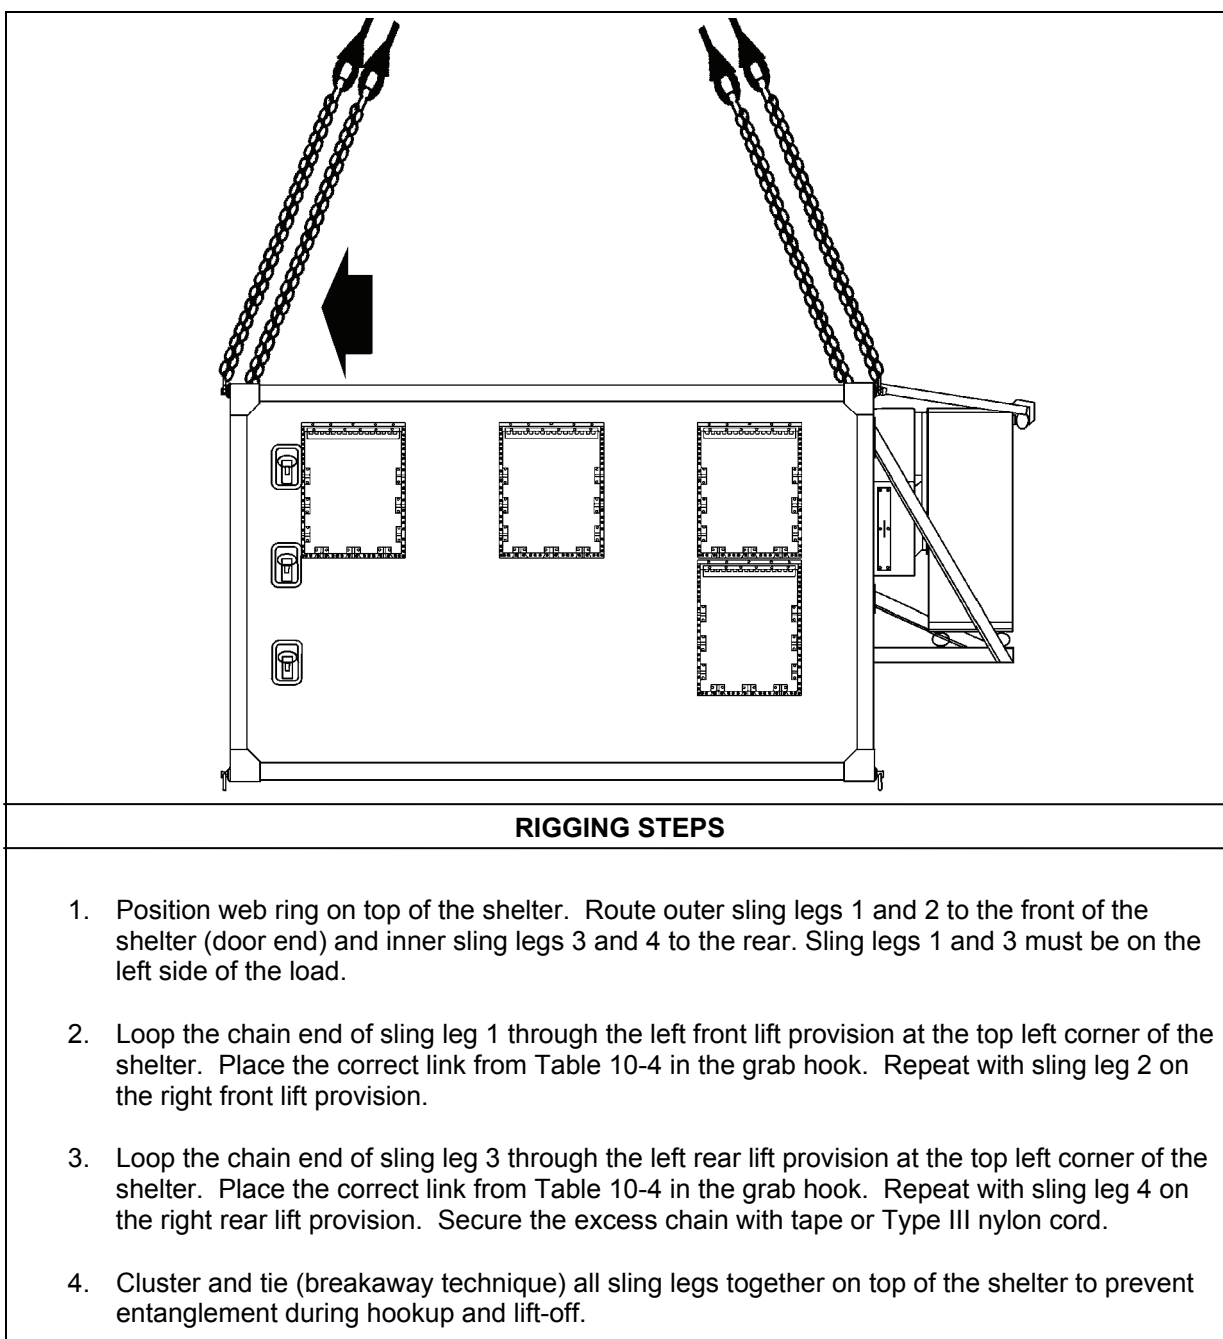

Figure 10-4. Digital Tech Controller Housed in a Modified Gitchner Shelter
- **Rigging.** Rig the load according to the steps in Figure 10-4.